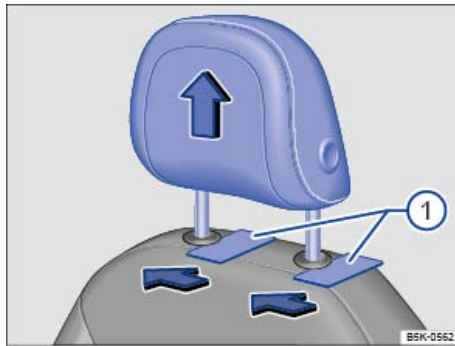

Fig. 41 Removing the front head restraints.
- Slide a flat object, such as a plastic credit card, underneath the right side of the cap (left side if sitting behind the head restraint) on the right-hand seat guide rod ⇒ fig. 41 \(1\) to unlock the head restraint.
- Push the head restraint down ⇒ fig. 41.